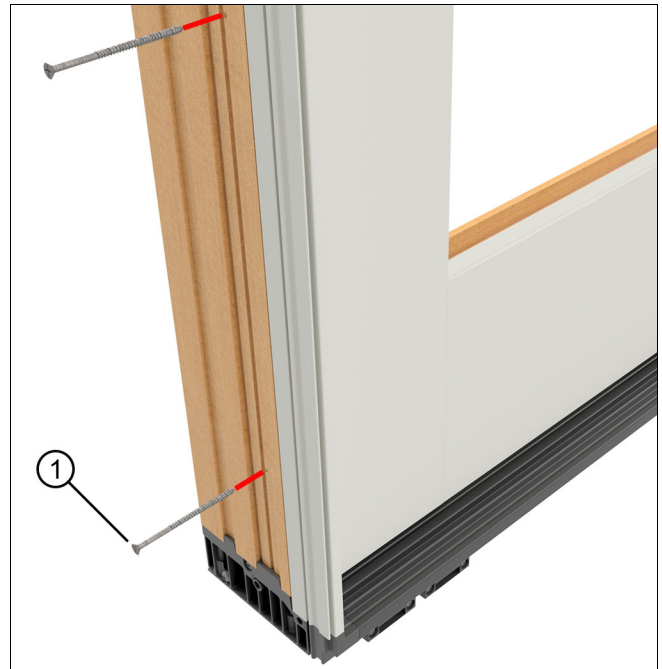

Figure 32
9. Fasten the jamb to the panel with the #8 x 3" flat head screws. See Figure 32.